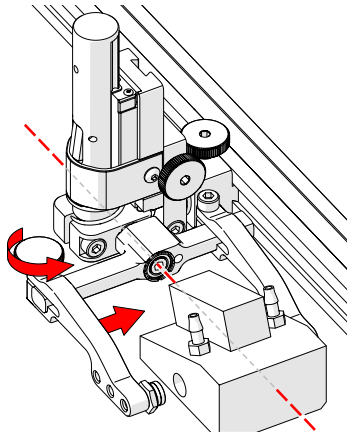

Fig. 81 - Adjust outer arm
5. Loosen the probe holder arm adjustment knob (Fig. 81) and slide the probe holder arm along the yoke pinching the wedge in place.